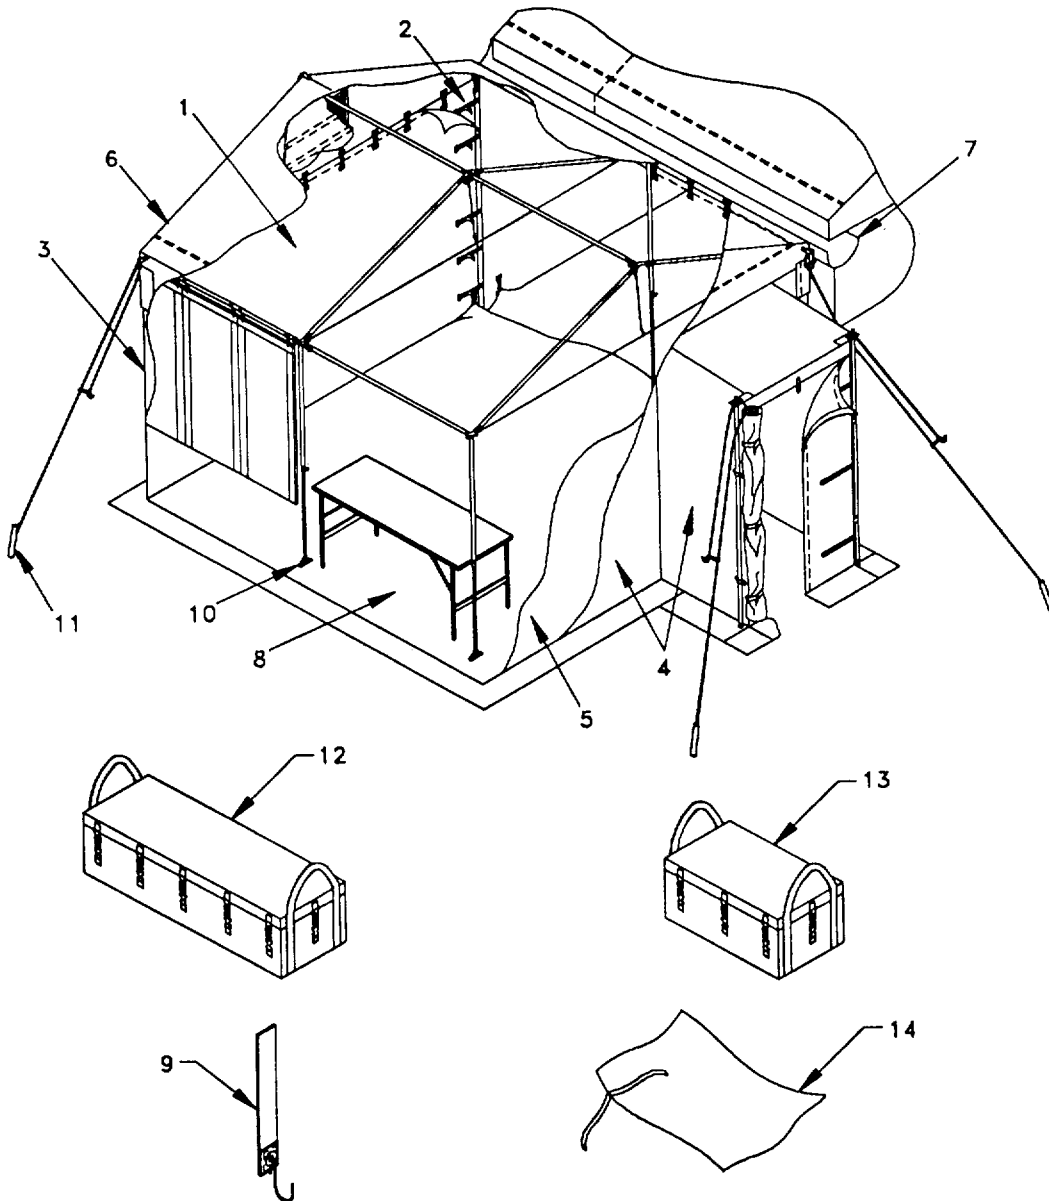

Figure 1-1.
a. Fabric Assemblies, Tent Pins, and Transport Bags. The major components of the fabric assemblies, transport bags, and the tent pins are identified in Figure 1-1, and described in paragraphs (1) through (14) below.